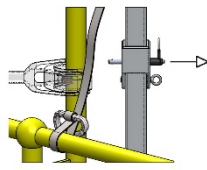

Fig 12
- While one person holds the pole top, second person removes the safety pin from the PCT hinge. (Fig 12)